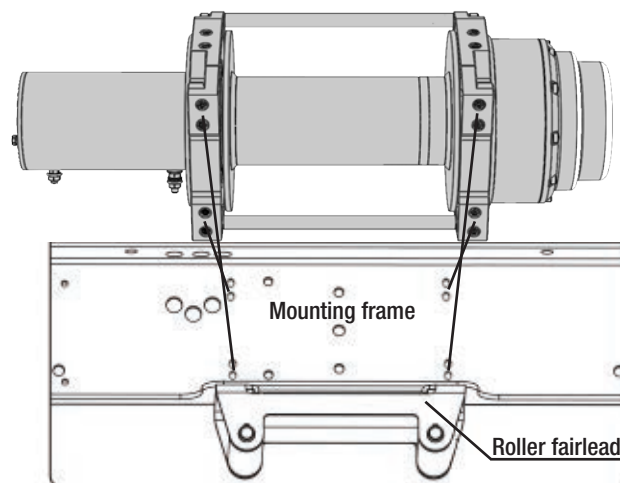

Fig. 2
5. Mount the winch to the mounting frame using bolts and nuts (Fig. 2). All eight M12 X 35 bolts must be used for proper installation.